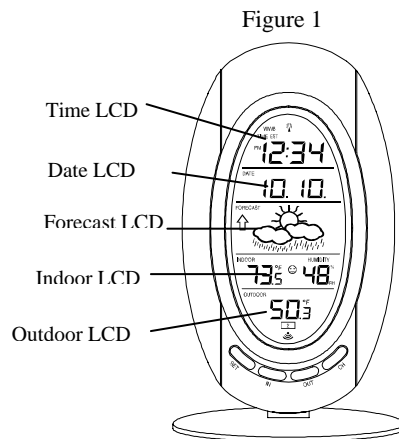

Figure 1
1. The Wireless Weather Station/ (Figure 1).